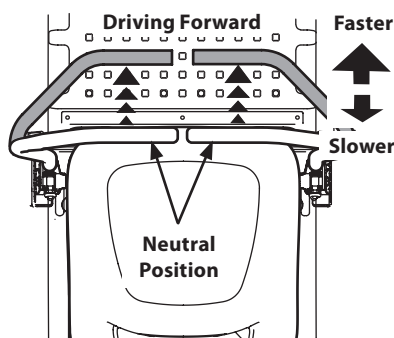

Figure 22
1. Slowly and evenly move both lapbar drive control levers forward. The tractor will start to move forward (Figure 22).